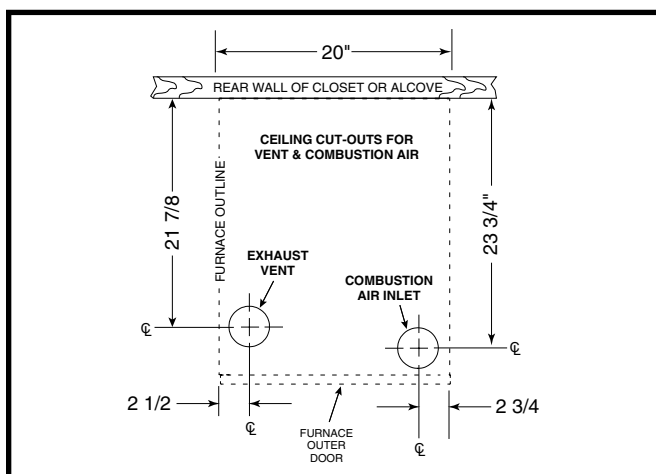

Figure 10. Ceiling Cut-Out Dimensions
IMPORTANT NOTE: Cut-outs in the ceiling and roof must be carefully located to avoid misalignment of the furnace, combustion air piping, and vent piping. See Figure 10.
2. Using the centerlines as a starting point, draw the rest of the cut-outs to the dimensions shown in Figure 10.